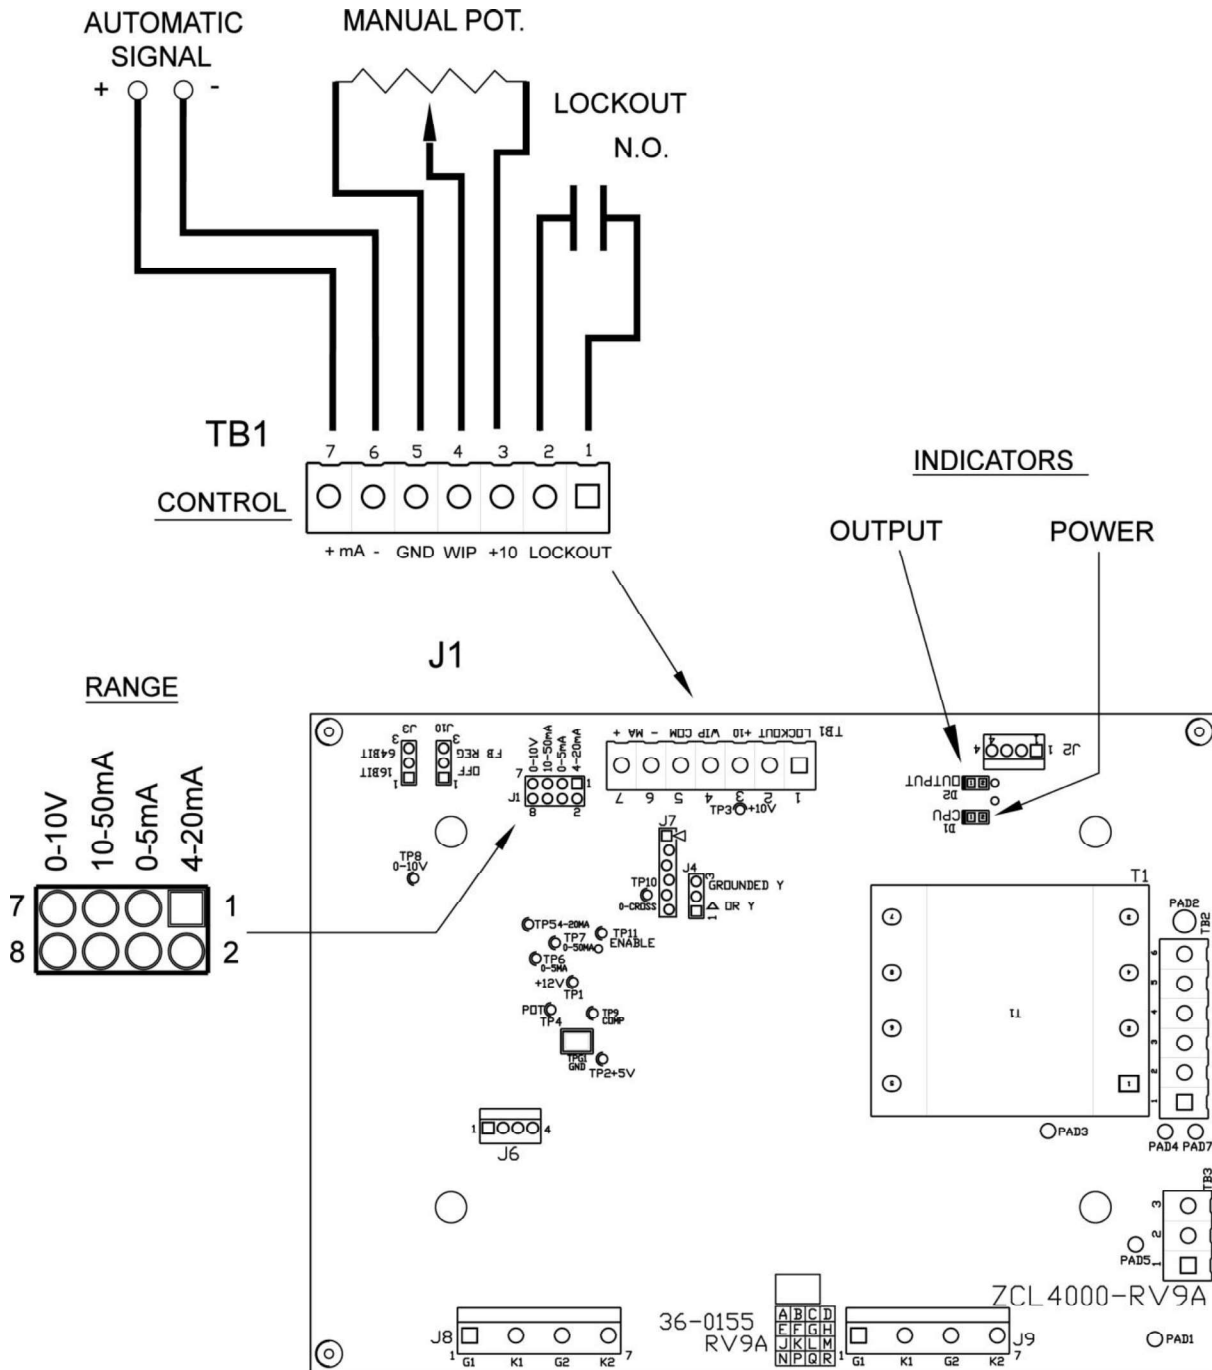

Figure 2
3. Check "J1" plug for correct position to match your automatic control signal. The unit is shipped with the jumper in the 4-20 mA position. See figure 2.